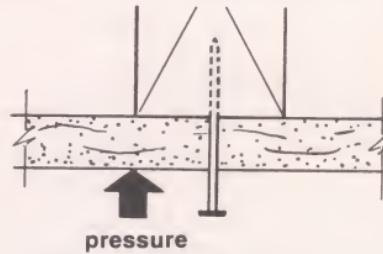

Fig. 9
**Remedy:** With nail attachment, during final blows of hammer apply additional pressure with hand to panel adjacent to nail (Fig. 9) to bring panel into contact with framing.